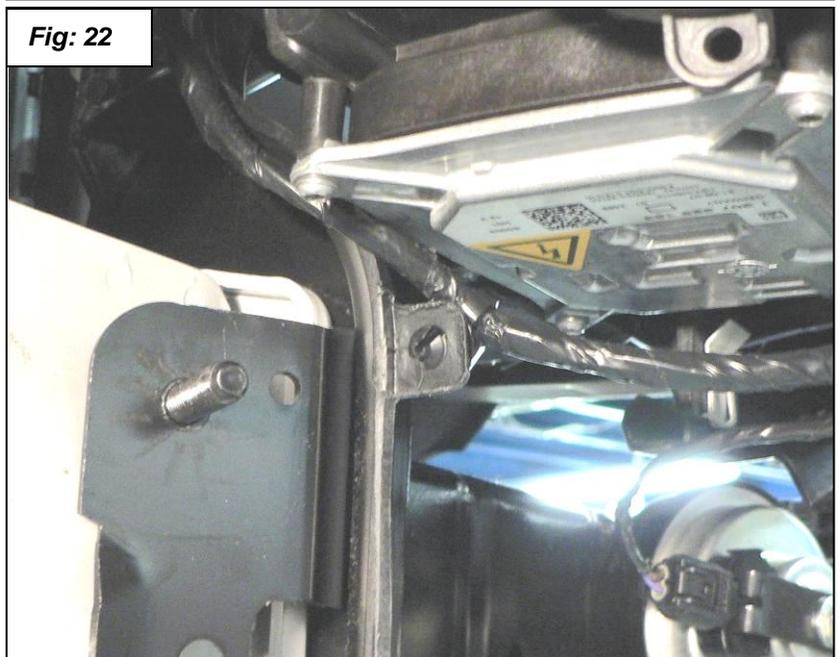

Fig: 20
28. Slide the supplied new BMW part number 51 64 7 154 546 lower radiator support bracket with mount for oil cooler onto the studs where the other one without the mount for oil cooler was. See figure 20. Install nuts, bolts, screws and radiator mount in reverse order of removal. Torque bumper nuts to 22Nm (16 ft-lbs.). You do not need to replace rivets.